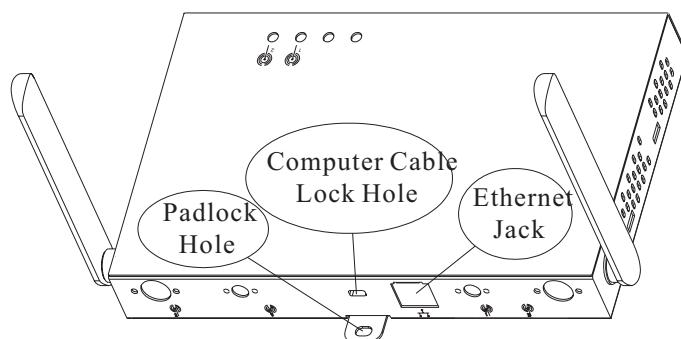
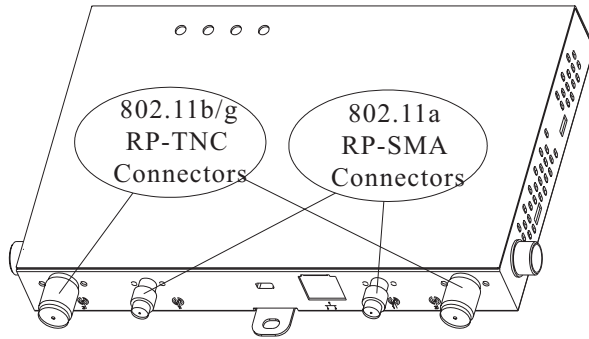

Figure 1: Rear View Of Altitude 300-2i™
Figure 2: Rear View Of Altitude 300-2d™
Figure 1 shows the rear side of the integrated antenna model of the Altitude 300-2i™. The Ethernet cable is plugged into the RJ45 jack. It supplies both network connectivity and power to the unit. The Altitude 300-2i™ can be locked by either a standard computer cable lock inserted in to hole or a padlock in hole.
- 6 Connect the computer cable lock (optional). When the Altitude 300-2™ installation does not use the universal mounting bracket, the unit can be locked with a computer cable. The Altitude 300-2™ has a standard computer cable lock hole located at the rear of the box, see Figure 1: Rear View Of Altitude 300-2i™ on page 7, or Figure 2: Rear View Of Altitude 300-2d™ on page 8.
- 7 Connect the external antennas, Altitude 300-2d™. For the Altitude 300-2i™ skip to step 8. The Altitude 300-2dO has connectors for external antennas, see Figure 2: Rear View Of Altitude 300-2d™ on page 8. The access unit should be located within the reach of the antenna's cables. The large RP-TNC connectors are used for 2.4 GHz 802.11b/g antennas and the small RP-SMA connectors for 5 GHz 802.11a antennas. Two connectors of each type are supplied to support spatial diversity. The unit can be operated with one antenna on each radio if desired. When this step is completed go to step 10.